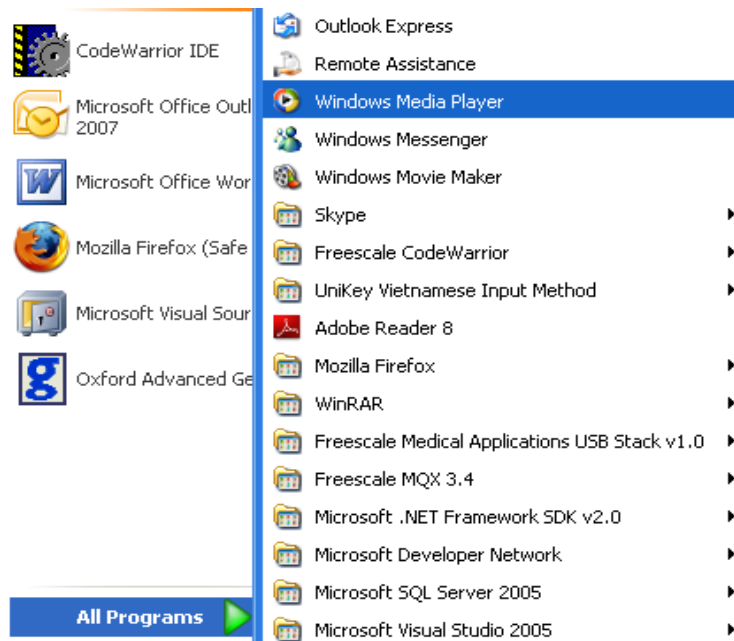

Figure L-14. Launch Windows Media Player application
- Open the Windows Media Player application as shown in Figure L-14.